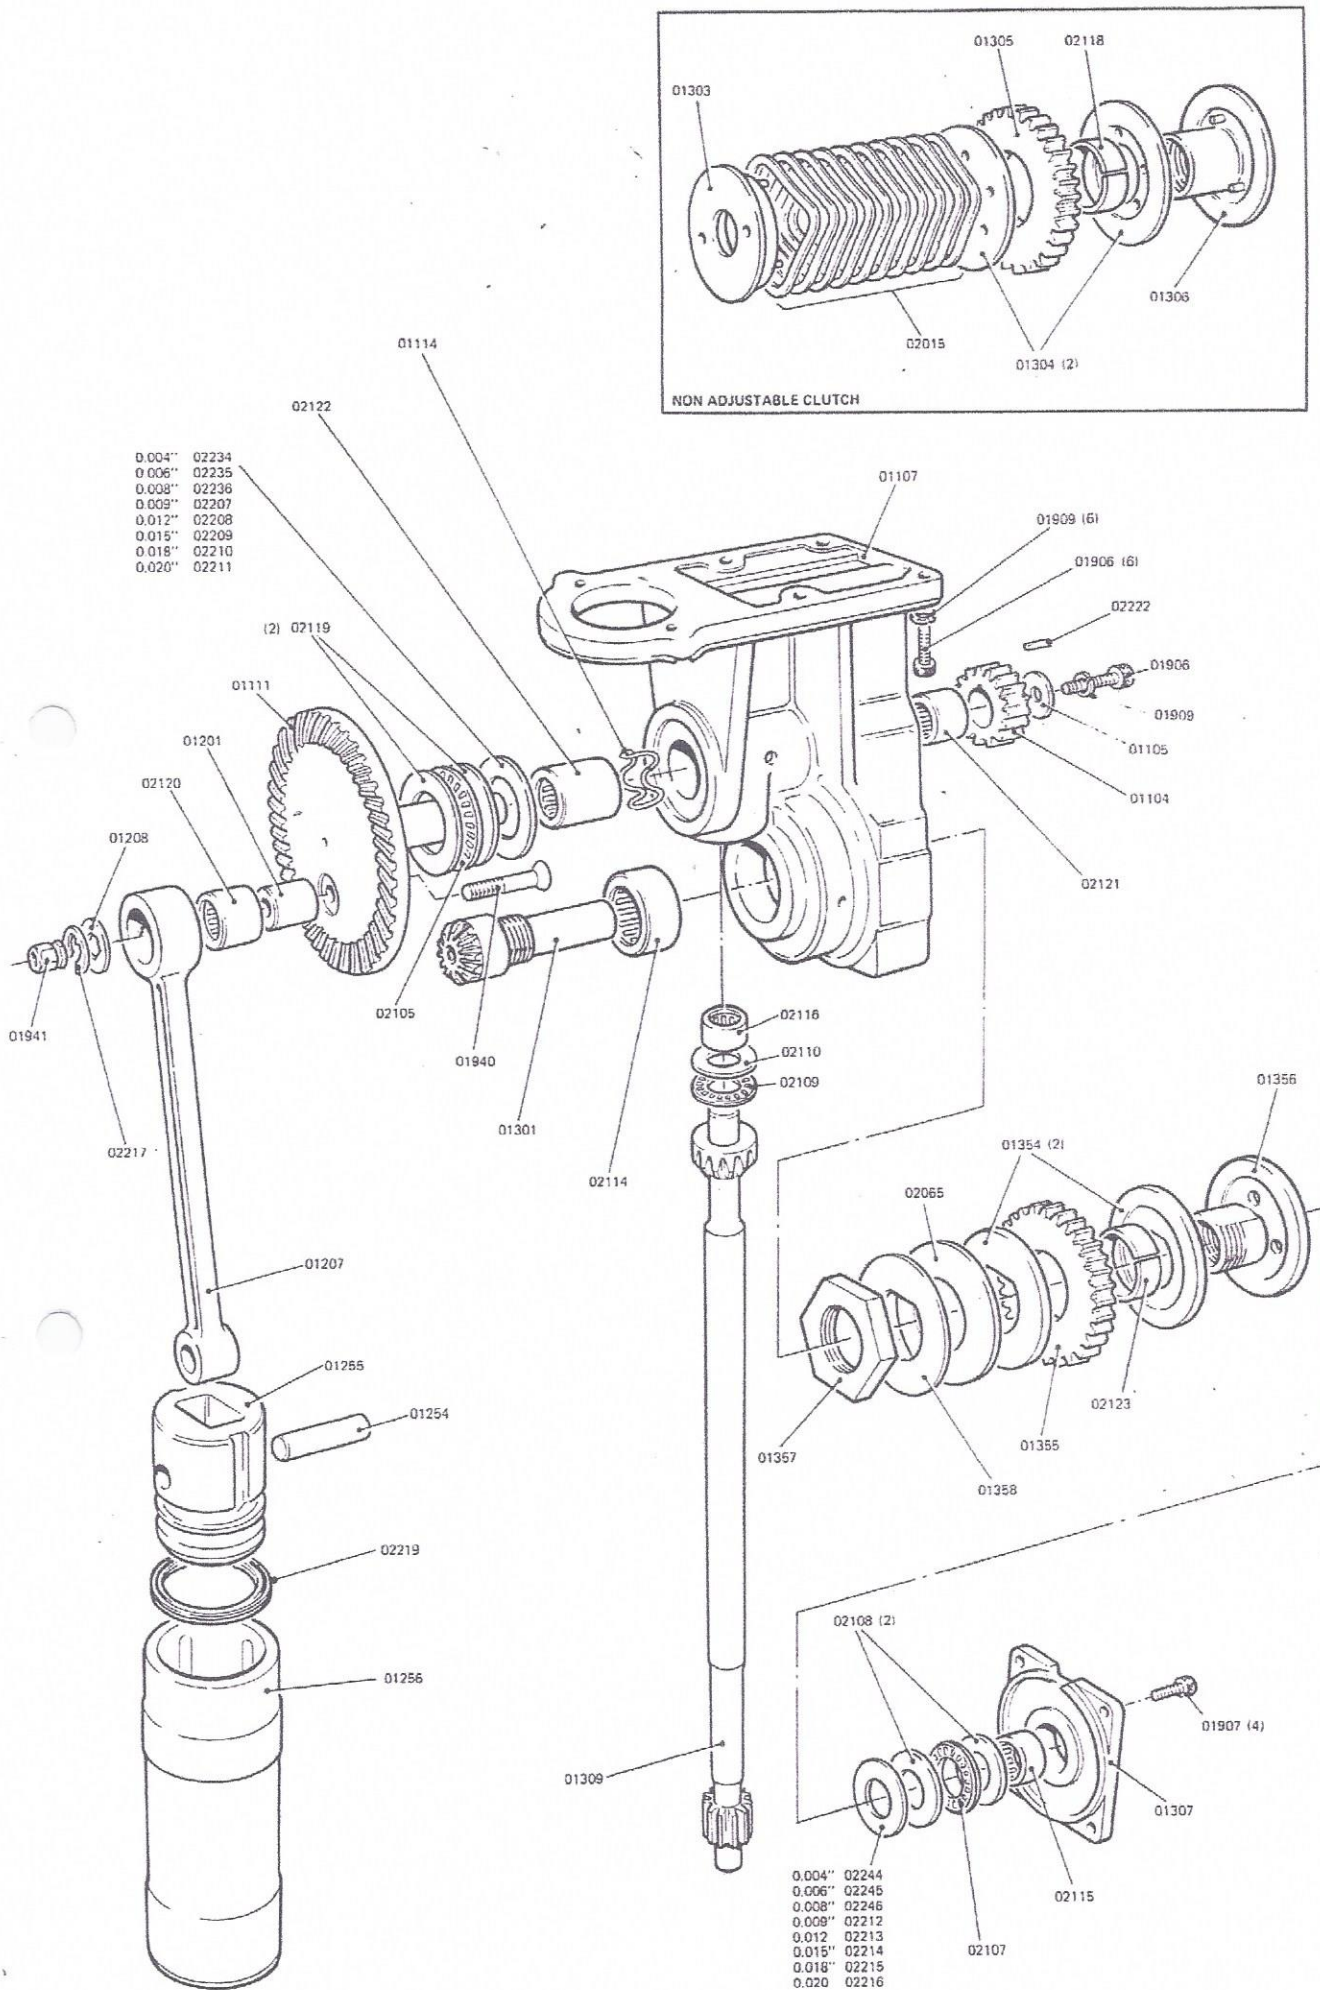

Figure 16 Hammer Mechanism and Drill Drive (Type 950 only)
19.4 Hammer Mechanism and Drill Drive, Type 950 (Illustrated in Figure 16)
- 01906 Small Assembly Screw (7)
- \* 01909 Spring Washer (7)